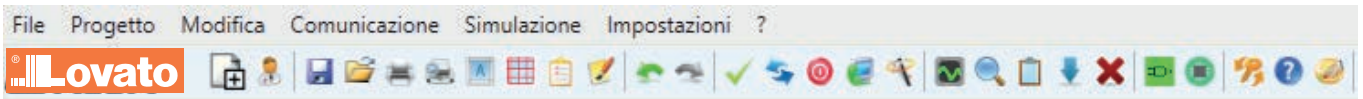
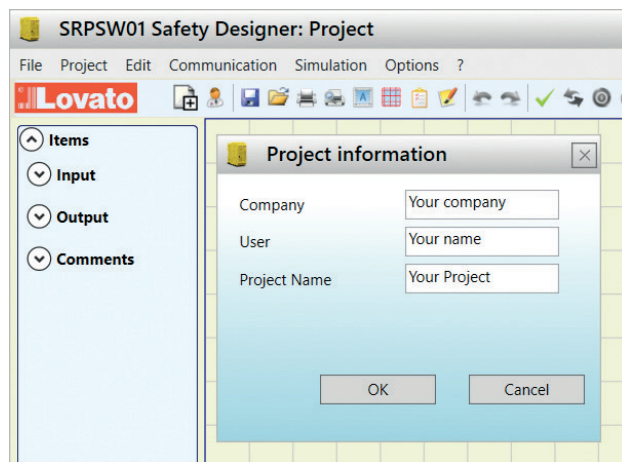

Figure 15
Figure 17
- The change of user parameters is obtained with the icon (Figure 15). The dialog user identification request appears (Figure 17). To accomplish this operation is not necessary to Log out from SRPMFA164. Generally it serves when the user must create a new project (even using a previously created).